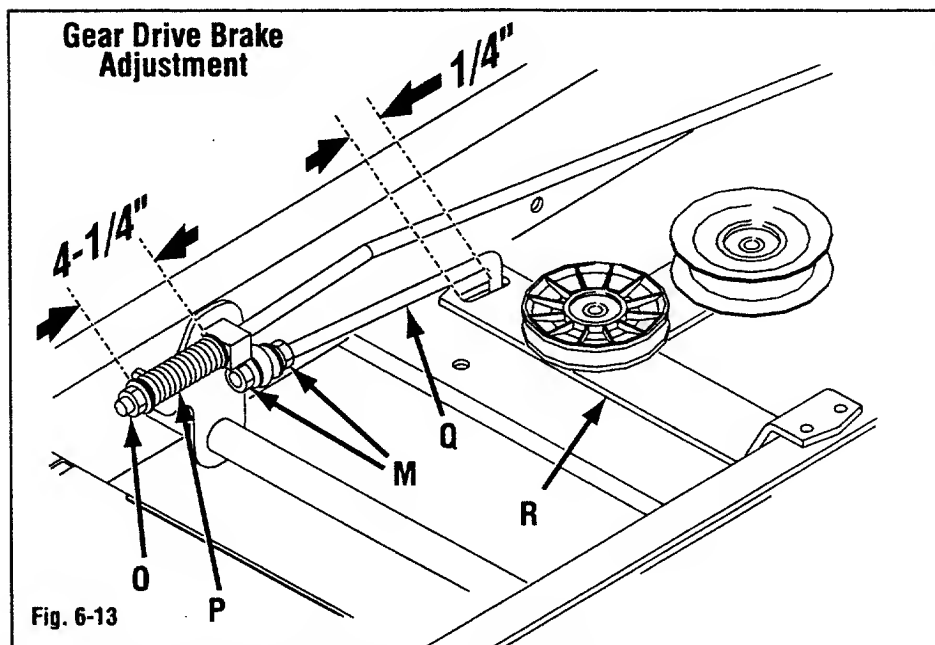

Fig. 6-13
- Adjust locknut (O, Fig. 6-13) so spring (P) measures 4-1/4" long.
- Adjust locknuts (M) so a gap of 1/4" exists between clutch rod (Q) and front of slot in idler bracket (R).